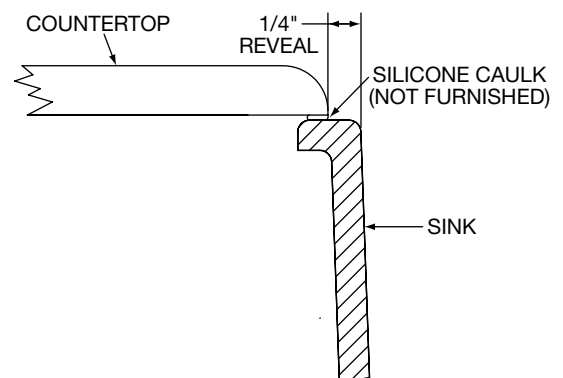

FIGURE 2
- Templates are not included however it is recommended that the sink countertop cutout provide a 1/4" reveal as shown in Figure 2.